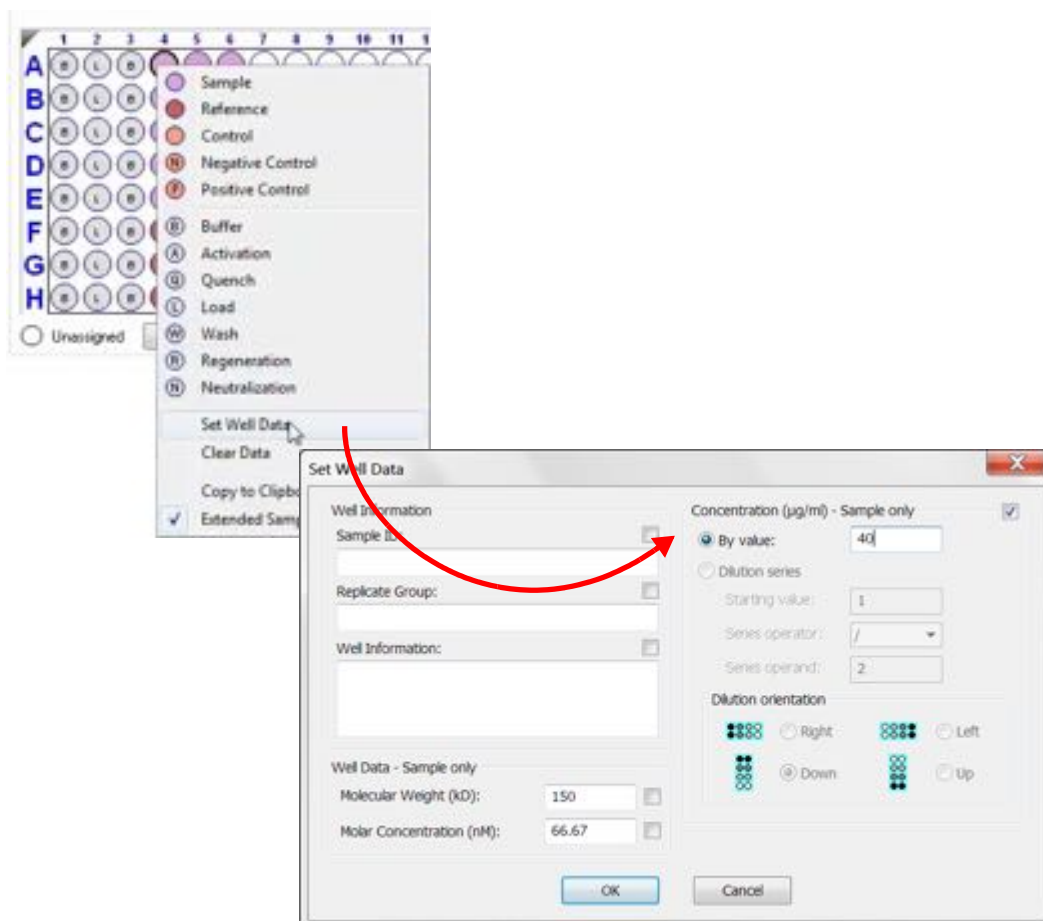

Figure 9-7: Sample Plate Map—Assigning Sample Concentrations by Value
1. In the **Sample Plate Map**, select the desired wells, right-click and select **Set Well Data**. The **Set Well Data** dialog box displays (see Figure 9-7).